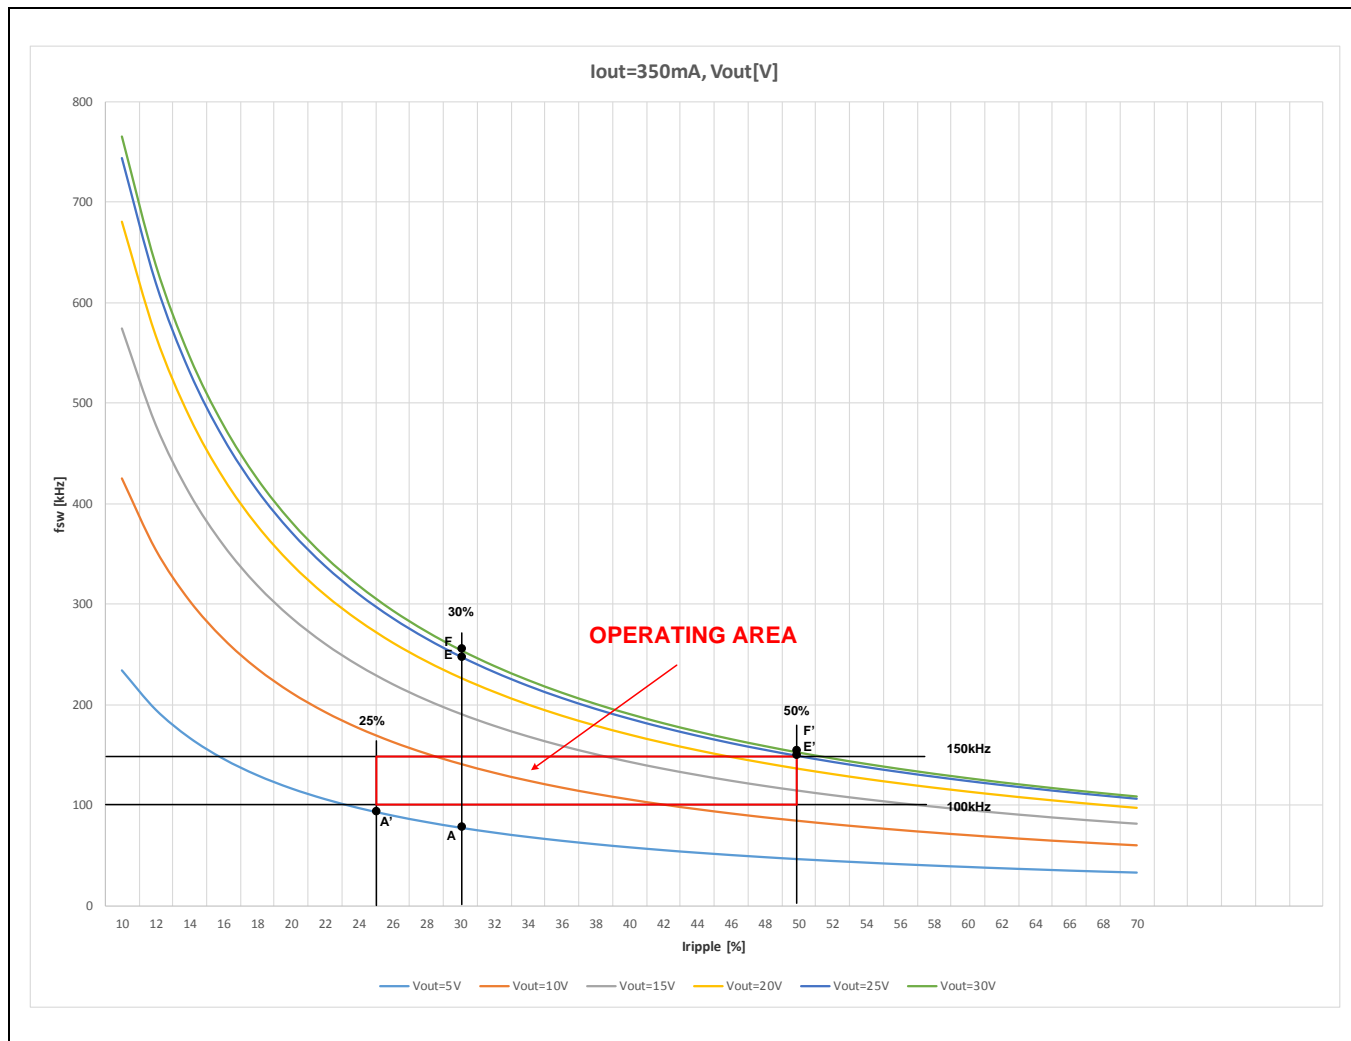

Figure 17. FRC Algorithm Example – Operating Point is outside the Predefined Borders
- 3) If the achieved operating frequency is above the maximum allowed switching frequency  $f_{sw\_max}$  (e.g.  $V_{out} = 25 \text{ V}$  – dark blue curve, point E;  $V_{out} = 30 \text{ V}$  – green curve, point F), the firmware will start to slowly increase the ripple in order to lower the operating frequency (the slope of this increasing ripple depends on the buck inductance  $L_{EXT}$ , see equation (12) on page 17). It will continue increasing the ripple until it hits its maximum allowed value  $I_{ripple\_max}$ . The switching frequency will be determined by  $I_{ripple\_max}$  and could be outside the predefined borders (corrected points E' and F', see Figure 17).
- 4) If the achieved operating frequency is below the minimum allowed switching frequency  $f_{sw\_min}$  (e.g.  $V_{out} = 5 \text{ V}$  – blue curve, point A), the firmware will start to slowly decrease the ripple in order to raise the operating frequency (the slope of this decreasing ripple depends on the buck inductance  $L_{EXT}$ , see equation (12) on page 17). It will continue decreasing the ripple until the frequency reaches the low threshold value defined by the parameter  $f_{sw\_min}$ , or if the ripple hits the minimum allowed value defined by the parameter  $I_{ripple\_min}$ . In this case, the switching frequency could be outside the predefined borders (corrected point A', see Figure 17).